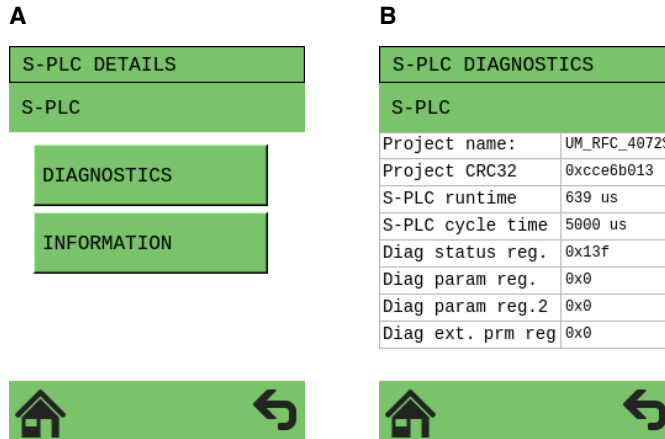

Figure 2-7 RFC 4072S display: cycle and program runtime of the iSPNS 3000 (B)
The cycle time of the iSPNS 3000 (T_{ZSPNS}) is marginally dependent on the size of the safe application program (iSPNS 3000 program runtime (S-PLC runtime)), the amount of safe process data, and the number of standard exchange variables for the standard controller. Both values, iSPNS 3000 cycle time (S-PLC cycle time) and program runtime (S-PLC runtime), can be viewed in the display of the RFC 4072S (see Figure 2-7 on page 35).
- For this, open the “S-PLC DETAILS” menu by tapping the “Safety PLC” tile (A in Figure 2-7 on page 35).